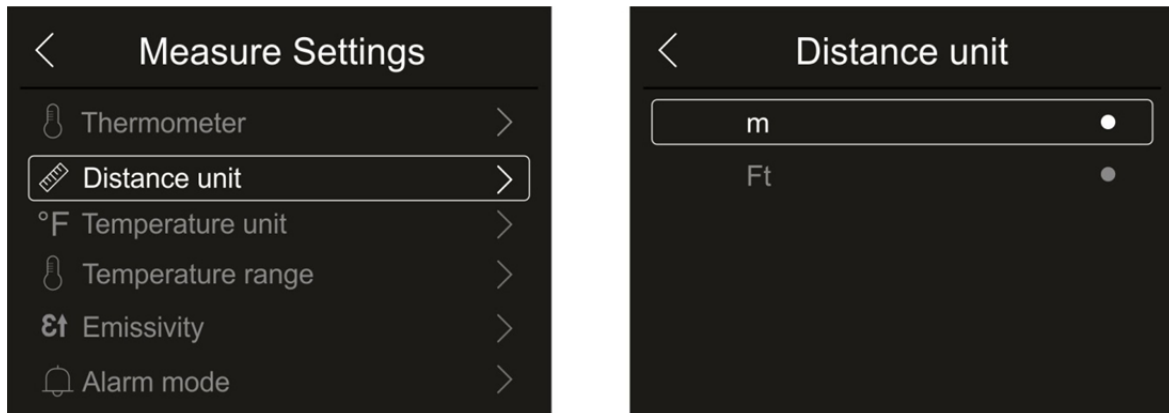

Fig. 24: Menu Setting the distance measuring unit
1. Touch the item “Distance unit” to set the measuring unit of distance. The screen in Fig. 24 – right side appears on the display: